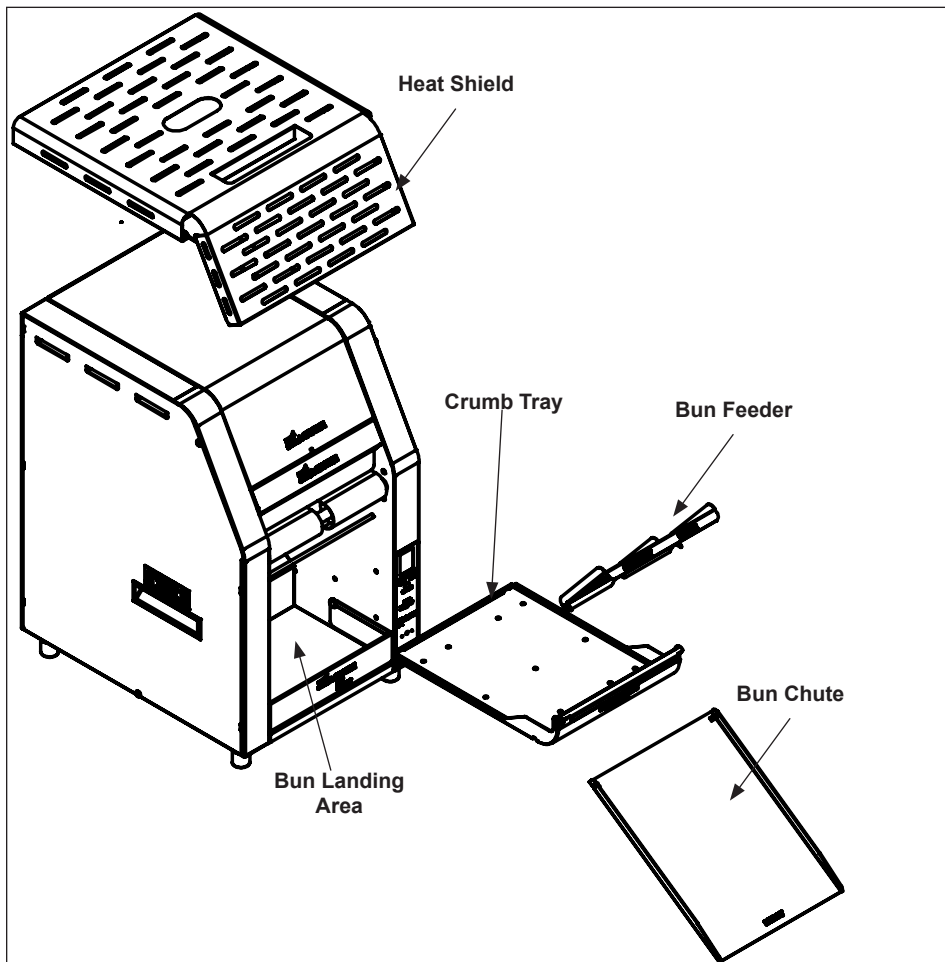

Figure 3. Clean the unit and accessories
2. Refer to Figure 3 Remove Crumb Tray and Bun Chute and set aside.
5. Wipe the bun landing area and Skirt Weldment with a hot damp cloth (Figure 3).